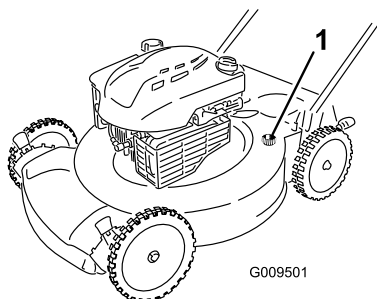

Figure 25
5. Attach a garden hose that is connected to a water supply to the washout port (Figure 25).